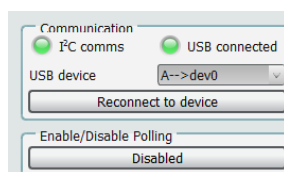

Figure 12: Active Communication Indicator
Smartcanvas section 1: Right after the GUI is initialized the "I2C comms" and "USB Connected" indicators should be shown in green, see Figure 12. If either one of these indicators is not green communication has not been established between the DA9155M and the GUI. It is possible to verify this by disabling the VBAT and the input voltage of the performance board, and then the green light should be disabled. Once power is re-enabled, press the "Reconnect to device" button to ensure the communication link is active.
5. Using the GUI: At this point the hardware setup is completed and the DA9155M GUI can be initialized. Once the GUI is done loading check the Active Communication Indicator, see Figure 12.